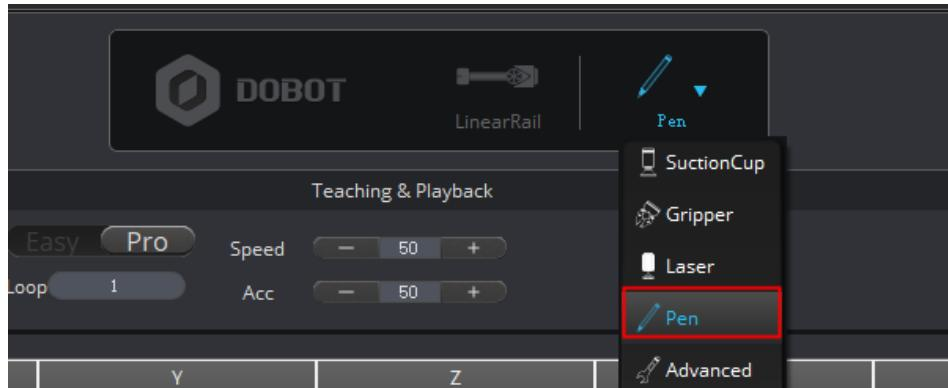

Figure 5.202 Select end-effector
- Step 1** Select **Pen** from the end-effector drop-down list on the DobotStudio page, as shown in Figure 5.202.